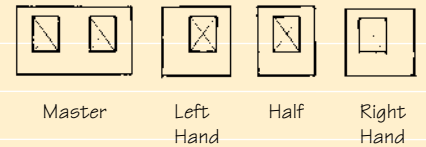

Fig. 11 Master Mold
- Promote the use of a master mold (Fig. 11)